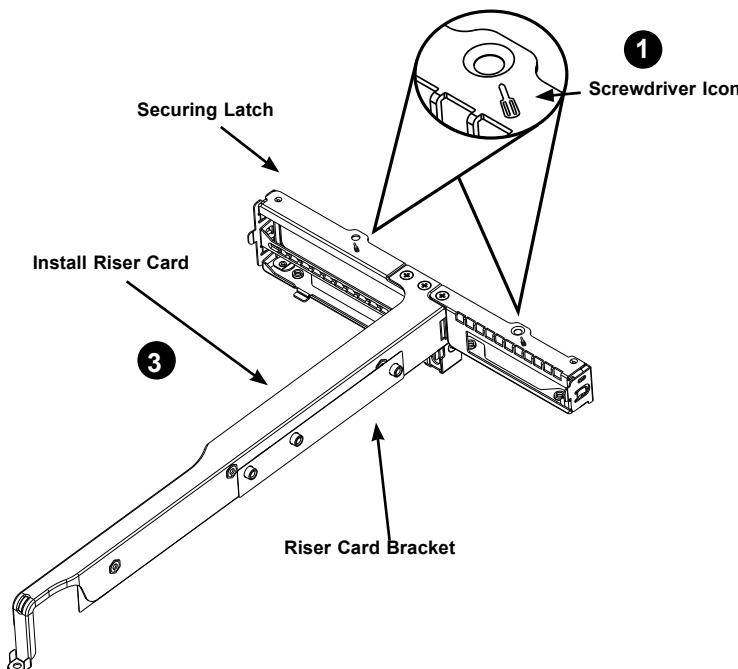

Figure 6-7. Removing the Riser Bracket
1. Remove the riser card bracket from the chassis by unscrewing only those screws indicated by the screwdriver icon as illustrated in Figure 6-7.